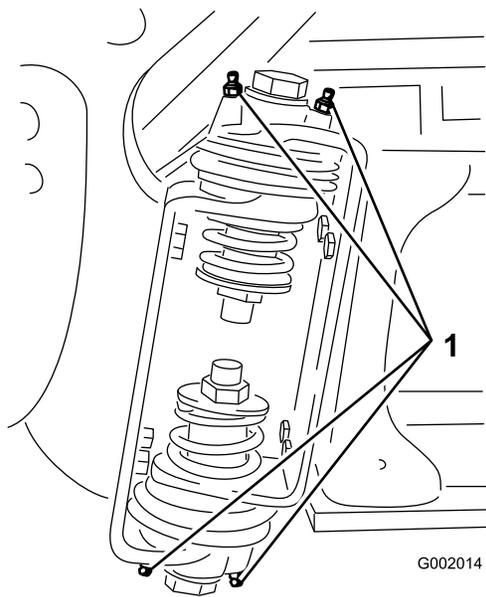

Figure 70
2. Pump grease into the bearing or bushing at each fitting (Figure 70).